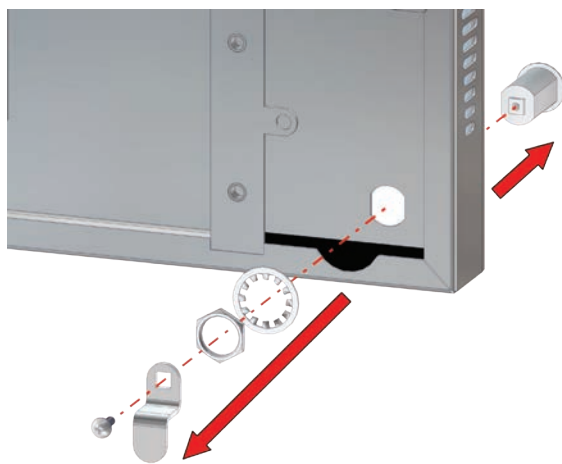

Figure 38: Detach Cam Lock Assembly
7. To detach the Cam Lock assembly, unscrew the Phillips head screw from the Cam Lock Latch (Figure 38).